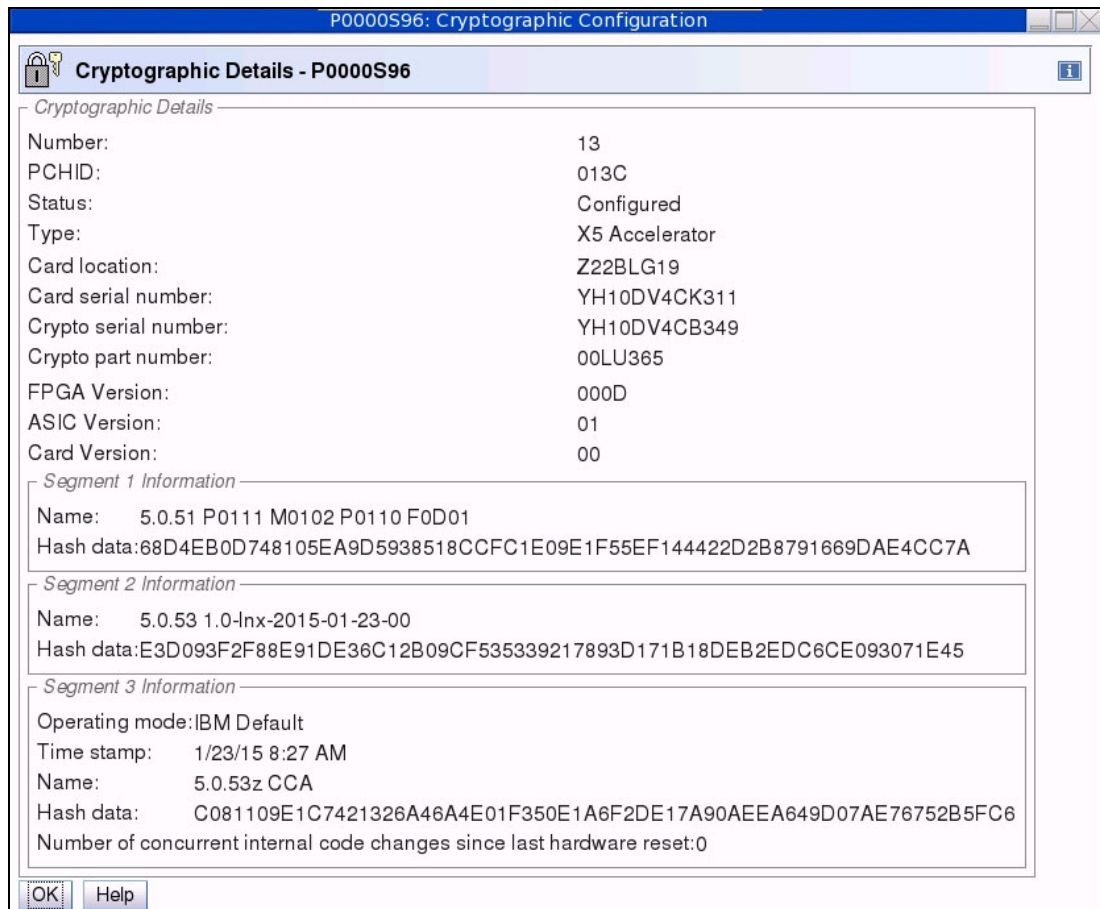

Figure 10-15 SE: Cryptographic Details (Accelerator)
8. Click **View Details** for detailed information (Figure 10-15).